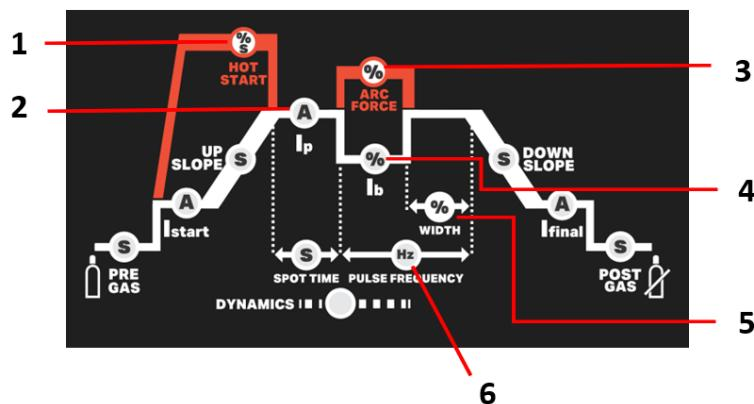

Fig. 1 – MMA parameters
**MMA welding****For TP 164-224 DC (See items in Fig. 1)**
- Adjust the current value to the diameter of the electrode (Fig.1 - 2), according to the following table, to adjust the machines according to the electrode to be used and start welding